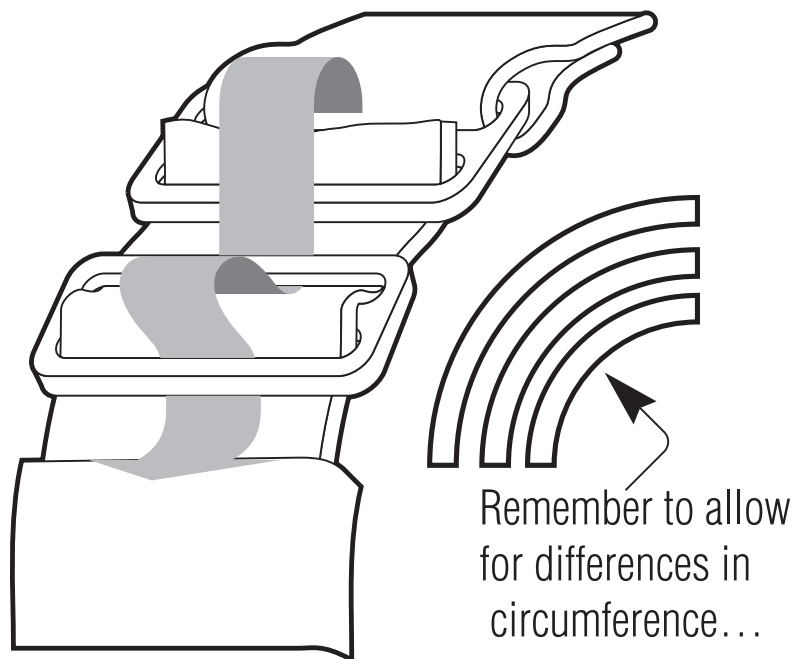

Figure 27: *Rethreading shoulder strap webbing.*
To add or remove D-rings from Transpac II shoulder straps, or to replace shoulder straps with those of a different size, you will need to know how to thread and unthread the 2.0-inch/50mm webbing found at the top of each strap. Figure 27 shows how. Among the things you will need to bear in mind:
- As the Figure 27 shows, the shoulder strap webbing is designed to pass through two stainless belt slides (weight retainers). The top slide is permanently sewed to the Transpac II backpiece. The lower slide goes on the shoulder strap webbing. Note that the webbing passes through this lower slide twice, to help ensure the strongest possible hold.